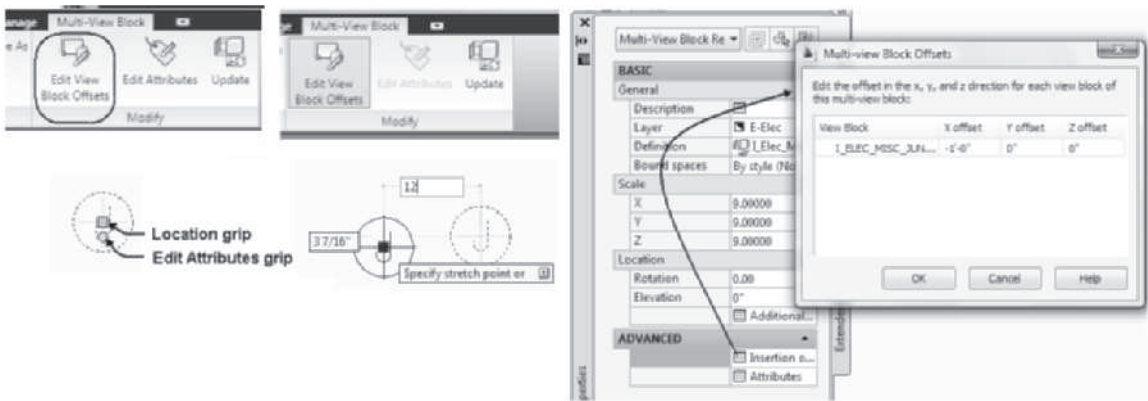

FIGURE 10.20 Editing Insertion Offsets in the workspace
You can edit the location of insertion offsets and attribute locations of view blocks within the multi-view block in the workspace without accessing the Properties palette. The **Edit View Block Offset** command is located on the Modify panel in the Multi-View Block tab as shown in Figure 10.20 and Table 10.7. Enable Dimension Input where possible should be toggled ON during in-place editing. When this command is executed the location grip is temporarily used to edit the offset.
Ribbon	Select a multi-view block choose Edit View Block Offsets of the Modify panel in the Multi-View Block contextual tab (refer to Figure 10.20).
- 2. Select the grip and move the cursor to display the dynamic dimensions as shown in Figure 10.20. Press TAB to specify a horizontal or vertical dimension for edit as shown in Figure 10.20 and overtype the desired distance for edit.
- 3. Press ESC to end edit and remove block selection. Choose Insertion offsets in the Properties palette to open the Multi-view Block Offsets dialog box shown at the right in Figure 10.20.